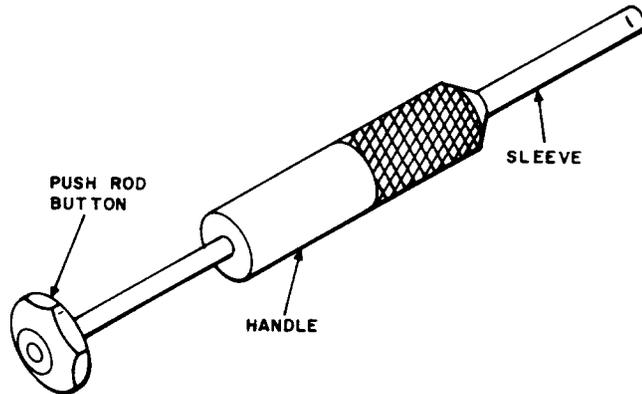

Fig. 2—Pin and Socket Extraction Tool
- 1—Part No. 305183, Pin and Socket Extraction Tool (Fig. 2)\*